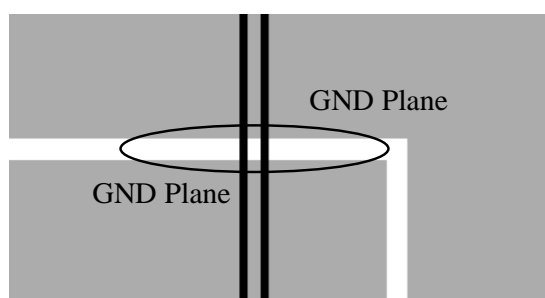

Figure 7-2 Discontinuous Ground Plane
- HSST differential signal routing requires a complete reference ground plane, and discontinuities in the ground plane as shown in Figure 7-2 are prohibited;